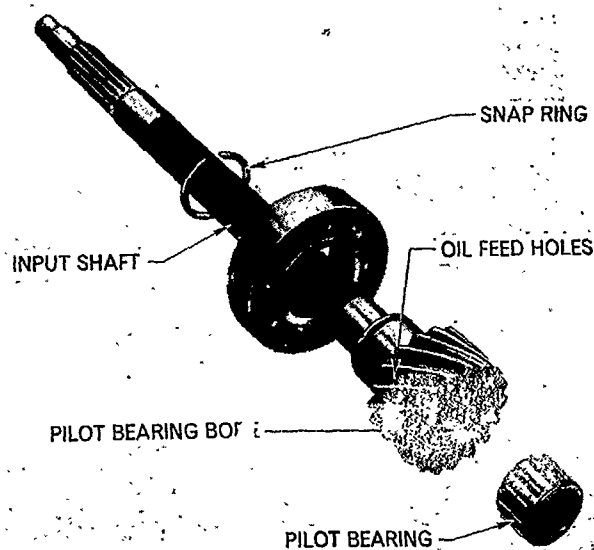

Figure 11
1. Remove the needle roller bearing, which is a loose fit in the bore at the gear end of the input shaft, Figure 11. Check the bearing and the bore in the shaft for wear and install new parts if necessary.